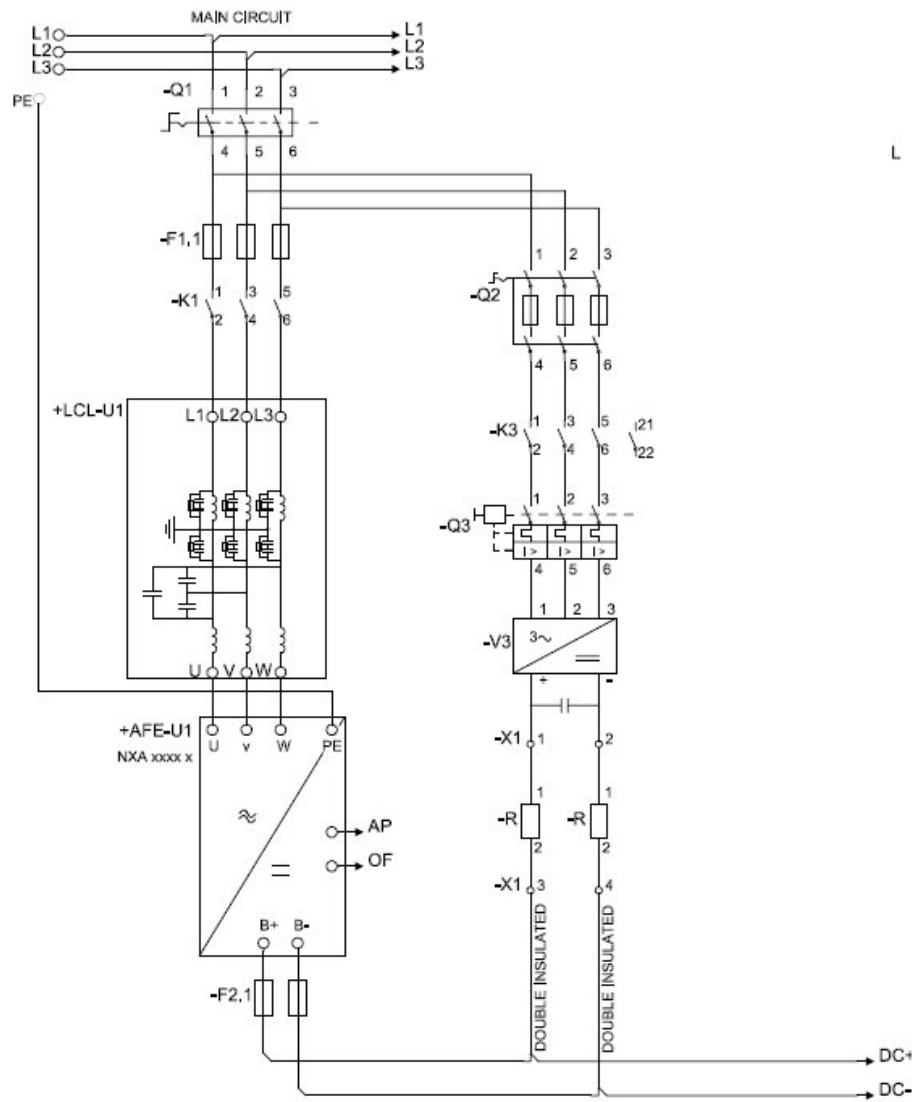

Figure 6. Connection
The GTC is utilised by using AFE hardware with special software. An external LC(L)-filter and charging circuit is needed. This unit is selected when low harmonics are required. The principle connection of AFE drive has been described in Figure 6.
1. Connect the unit according to the Figure 6.